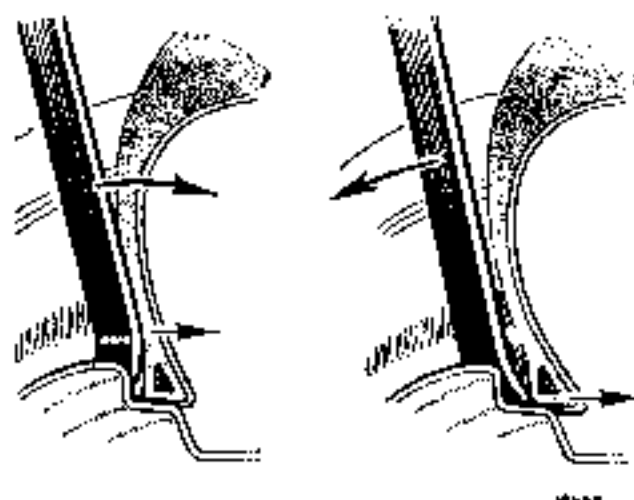

Fig. O.4
*In cases where difficulty is encountered in moving the bead into the well-base the tyre lever should be inserted between the rim edge and the bead as indicated in Fig. O.4 and the lever pushed towards the tyre as indicated. A second tyre lever should now be inserted next to the first in the space between the rim edge and the bead, with its curved end against the rim, and pulled outwards.*